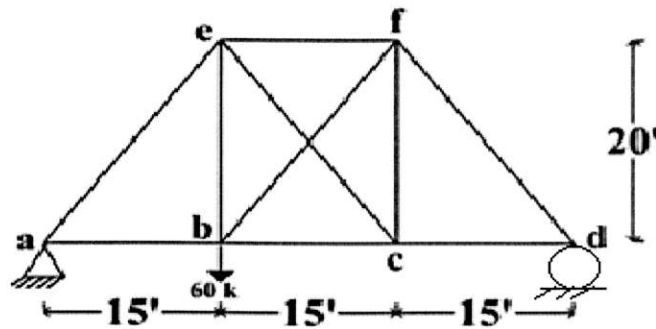

Figure 7
7. Using method of **Consistent Deformation**, compute the bar forces in the member of truss shown in **Figure 7**. Assume $EA = \text{constant}$ for all members.